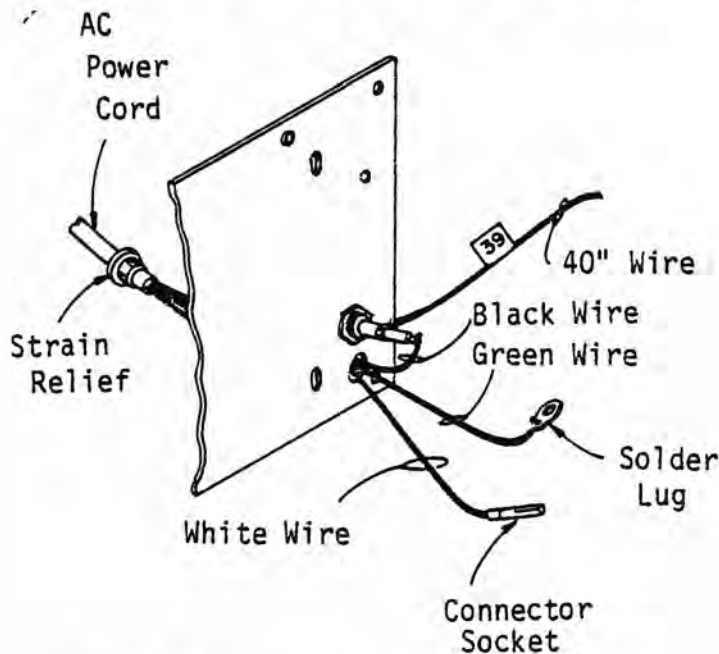

Figure 5-56 AC Power Cord Installation
3. Bag 2 contains a strain relief. Slip it over the cord, and push it down until it is situated about 1/2 inch from the stripped end of the casing (below the exposed wires) (see Figure 5-56).
4. Snap the strain relief in place in the hole on the rear panel just above the fuse holder (see Figure 5-56).